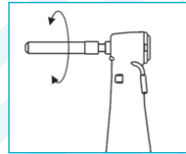

Fig. 5
- Gently turn the needle / dental drill to trigger locking device. (Figure 5)